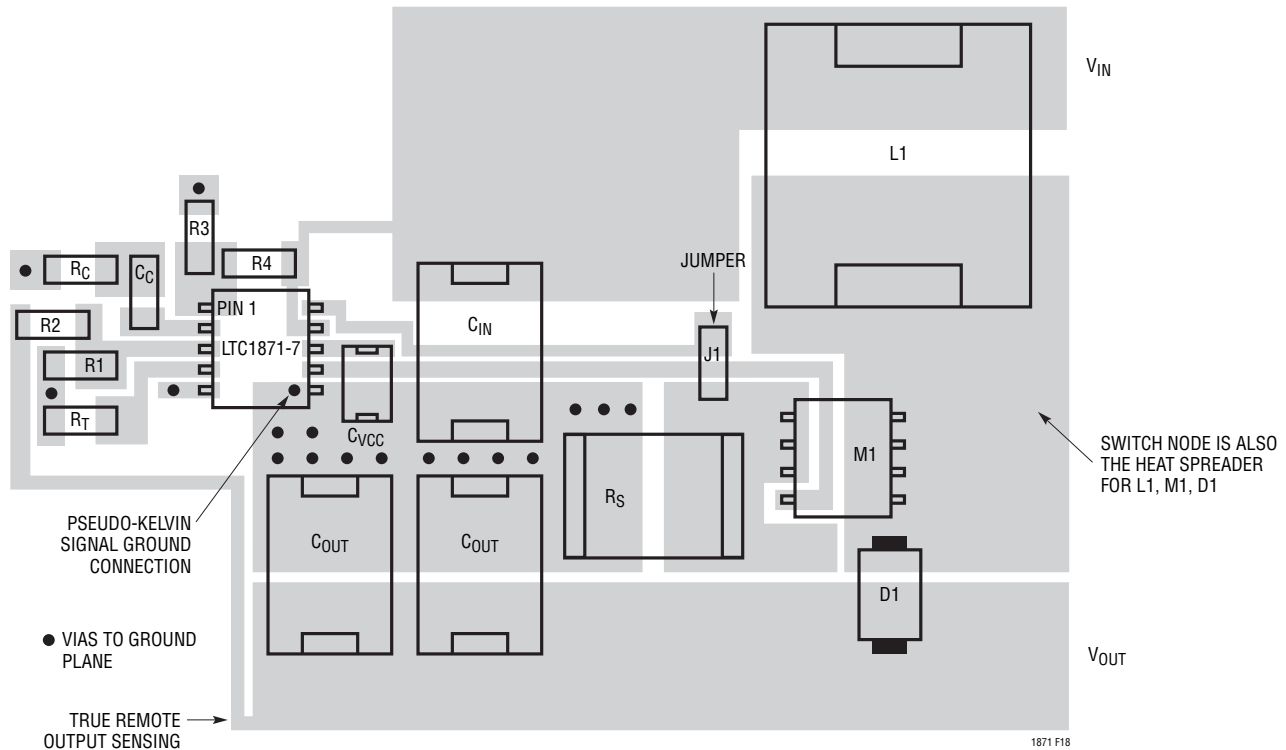

Figure 18. LTC1871-7 Boost Converter Suggested Layout
6. Place the small-signal components away from high frequency switching nodes. In the layout shown in Figure 18, all of the small-signal components have been placed on one side of the IC and all of the power components have been placed on the other. This also allows the use of a pseudo-Kelvin connection for the signal ground, where high di/dt gate driver currents flow out of the IC ground pin in one direction (to the bottom plate of the  $INTV_{CC}$  decoupling capacitor) and small-signal currents flow in the other direction.